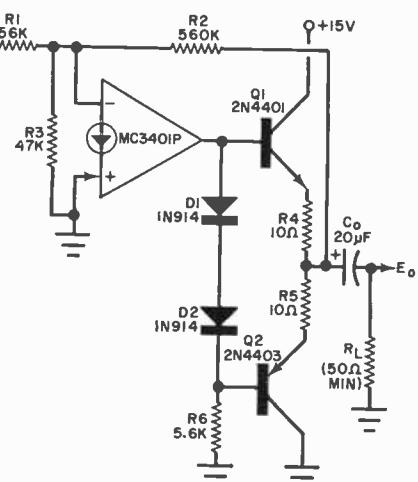

Fig. 8. A 50-ohm line driver amplifier.
**Line Driver Stage.** Generally the output current of a CDA should be limited to 10 mA or less, which does not allow loads with very low impedances (such as 50 ohms). A simple booster stage can be used to overcome this (Fig. 8).